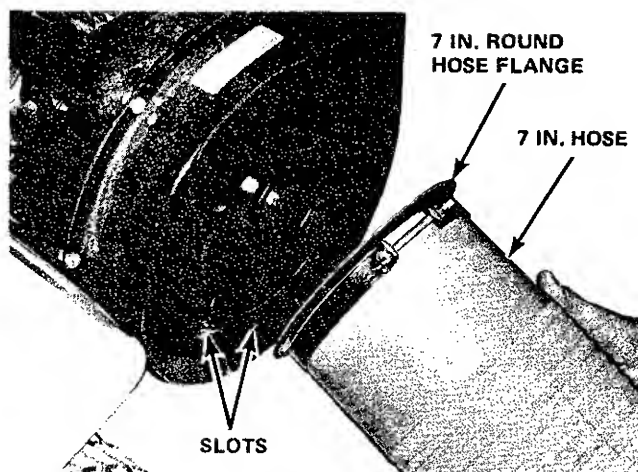

FIGURE 5
4. Install the round flange on one end of the 7 in. intake hose. Secure the clamp on the hose end with a 1/4-20 x 3 in. machine screw, lockwasher and nut. Slide the flange into the slots on the blower housing. (See Figure 5).